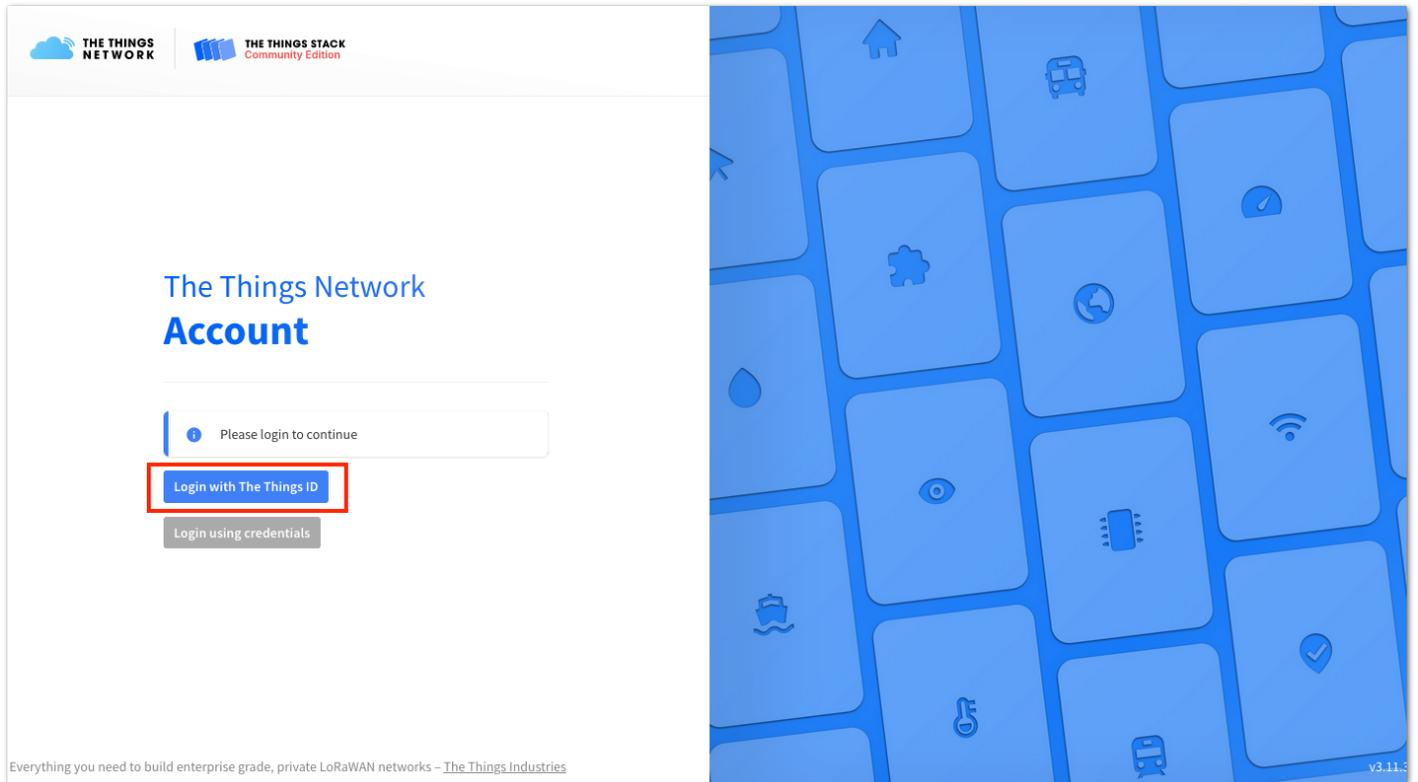
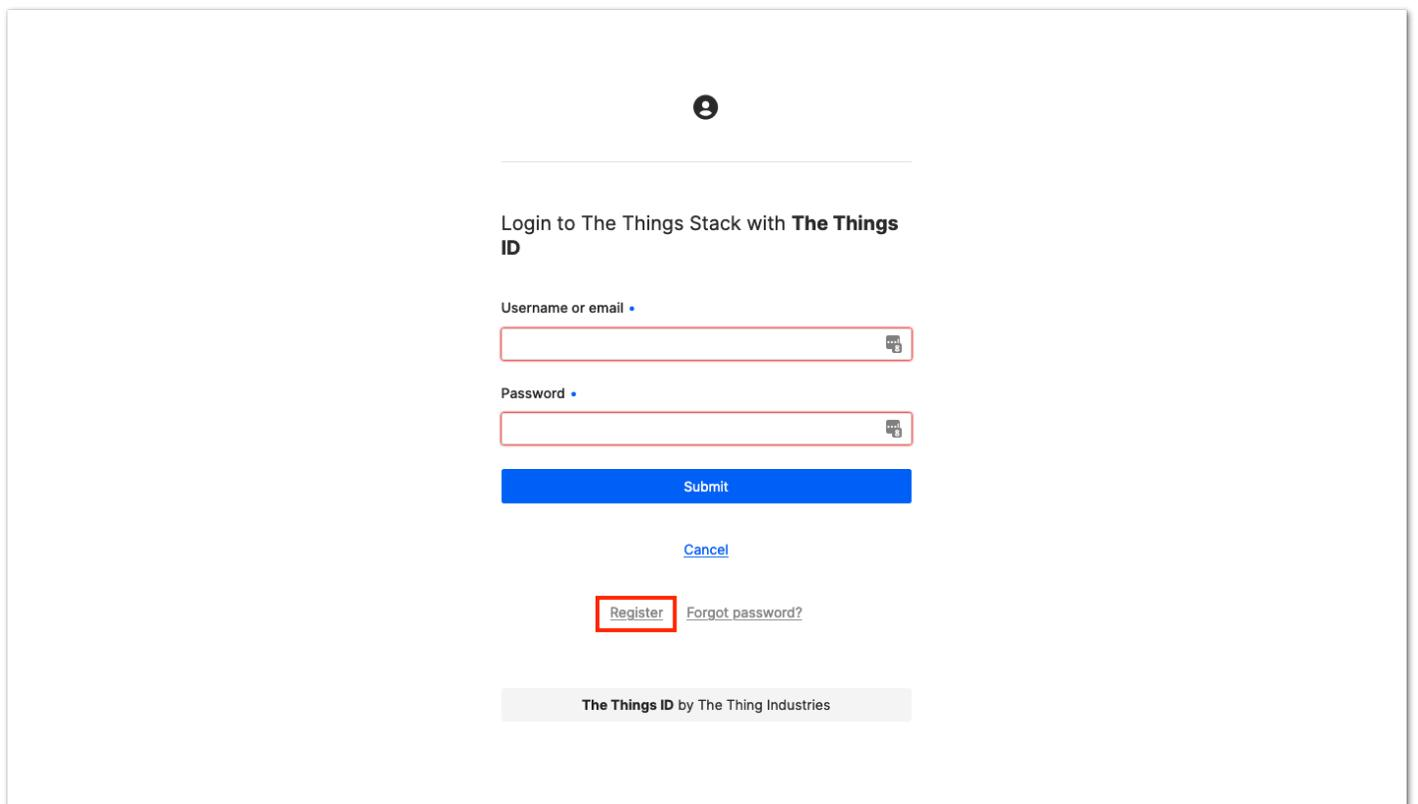

Figure 40: Login using TTN account
Figure 41: Registration of new account
2. To register as a new user to TTN, click on **Login with The Things ID** then select **register** on the next page, as shown in **Figure 40** and **Figure 41**.